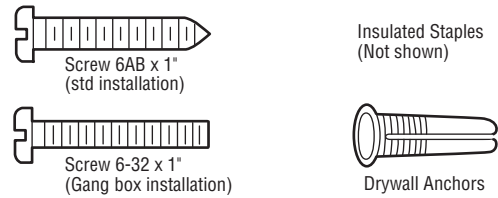

Figure 1
1. Slip the curved arms over the rounded edge of each door track, with the curved arms facing the door. Snap into place against the side of the track. It should lie flush, with the lip hugging the back edge of the track, as shown in Figure 1.